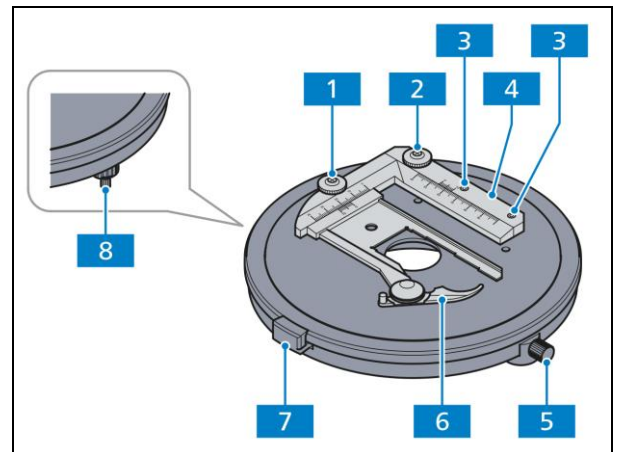

Fig. 2-15 Pol rotary stage
- The Pol rotary stage for holding and positioning specimens with specimen guide (Fig. 2-15/4) and specimen holder (Fig. 2-15/6) accommodates standard 45x25 mm slides and 75x25 mm (3"x1").
- 360° rotation with lock (use knurled screw to lock) (Fig. 2-15/5).
- Click stop (Fig. 2-15/7) every 45°; enabled or disabled via the control knob (Fig. 2-15/8).
- The specimen guide (Fig. 2-15/4) can be removed by unscrewing the two clamp screws with an Allen wrench (AF 2), Fig. 2-15/3; two cylindrical pins on the underside serve as orientation for mounting the specimen guide on the rotary stage.
- The specimen guide is equipped with a specimen holder that can be shifted in the X and Y directions using the coaxial knurled knobs (Fig. 2-15/2 and 1). The shifts in the X and Y directions can be read off the respective Vernier scale.